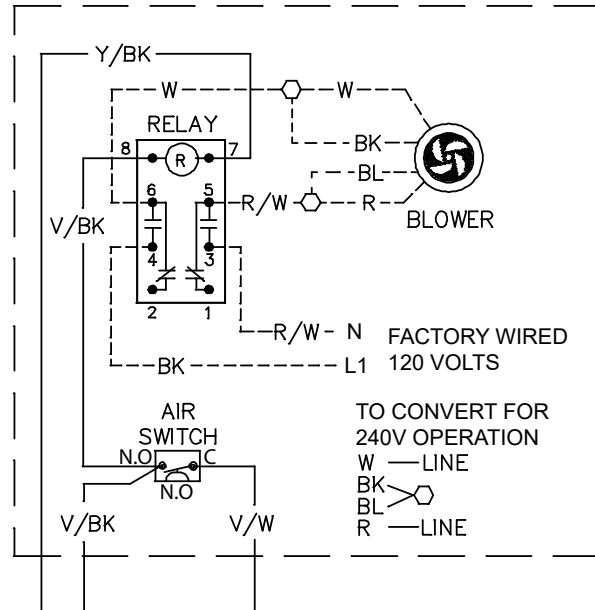
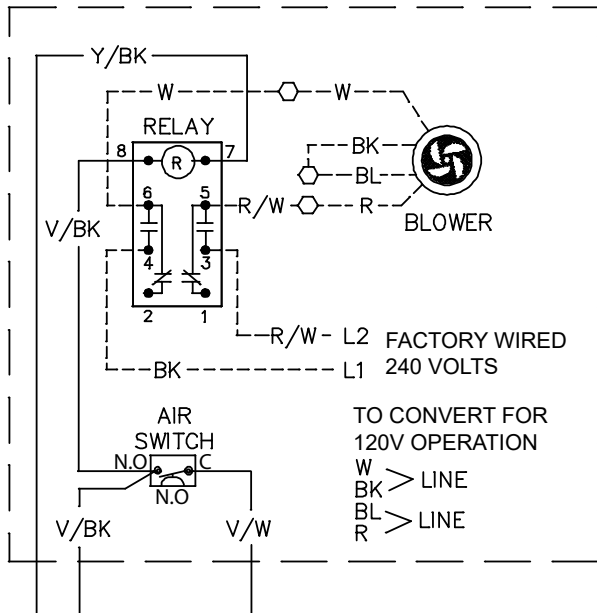

Figure 16. 120VAC
Figure 17. 240VAC
14. Wire the heater power lines along with the D-2 Power Vent power lines to the supply power per **Figure 16** for 010744 or 010745, and per **Figure 17** for 009832 or 009833. If the D-2 does not match the power supplied, re-wire the blower for the correct voltage.